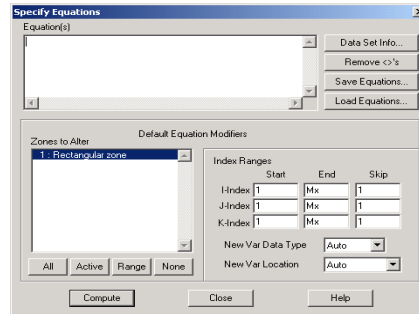

Figure 24-2. The Specify Equations dialog.
2. From the Alter menu, choose Specify Equations. The Specify Equations dialog appears, as shown in Figure 24-2.